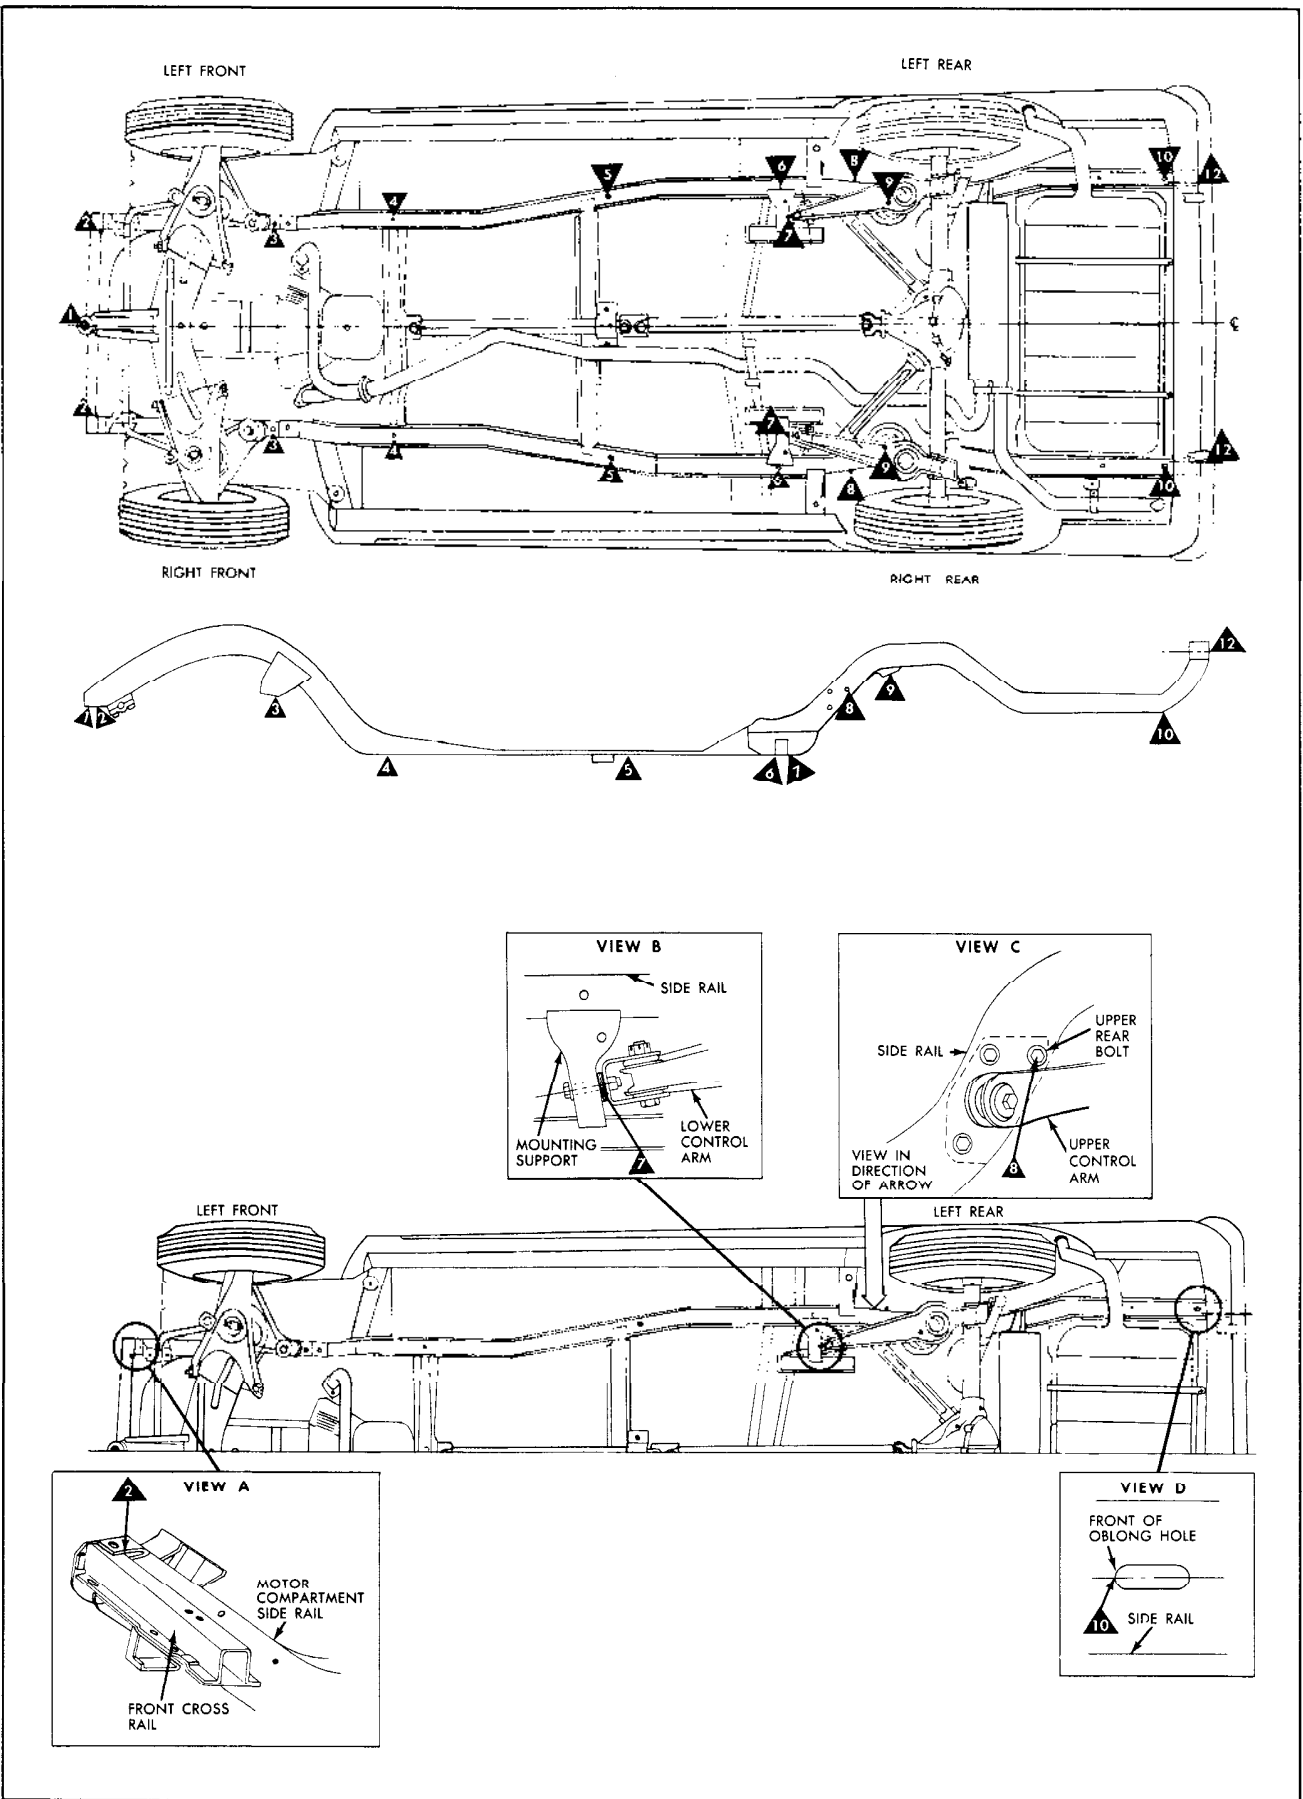

Fig. 15-1 Location of Underbody Alignment Reference Points
Fig. 15-1 shows the specific reference points used in making underbody measurements. Dimensions to gauge holes and other unthreaded holes are measured to dead center of the holes and flush to the adjacent surface metal.
2. Rear edge of front cross rail at point of contact with inboard facing of motor compartment side rail. (View "A" in Fig. 15-1)
7. Lower rear edge of rear suspension mounting support, directly below center of rear axle lower control arm front support bracket attaching bolt hole. (View "B" in Fig. 15-1)
rear compartment side rail. (View "C" in Fig. 15-1)
10. Center front edge of oblong hole in bottom surface of rear compartment side rail (located slightly forward of rear end lower panel). (View "D" in Fig. 15-1)
points that should be utilized when making underbody alignment checks. These reference points are: (See Figs. 15-1 and 15-2)